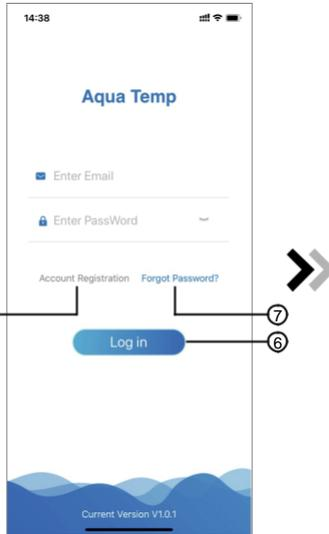
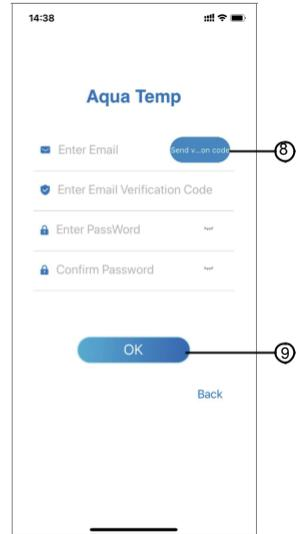

Fig.1 Login interface
Fig.3 Forgot Password interface
1. Account Registration: To register an account, click①(Fig.1) to jump to the Account Registration interface, fill in the relevant information and click②to receive verification code, while completed the application information, click③to read the details of the Privacy Policy, then click④to agree, and click⑤, registration is done.
2. Log in: Follow the instructions on the page(Fig.1 ), enter your registered email address and password, click⑥and jump to device list;
3. Forgot Password: While forget your password, click⑦(Fig.1 ), jump to the Forgot Password interface (Fig.3 ). Follow the instructions on the page, fill in the relevant informations, click⑧to receive verification code from your mailbox, click⑨ to confirm and password reset is done.